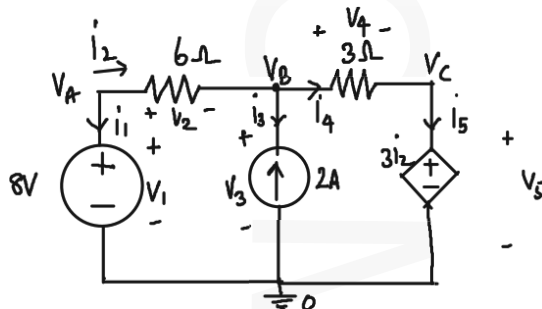

Figure 2: Circuit for STA Analysis, Question 12)
- 12 For the following circuit in Fig. 2, formulate the Sparse Tableau Approach (STA) based equations. The node voltages are  $V_A$ ,  $V_B$  and  $V_C$ , the branch voltages are  $V_1$ ,  $V_2$ ,  $V_3$ ,  $V_4$  and  $V_5$ , and the branch currents are  $i_1$ ,  $i_2$ ,  $i_3$ ,  $i_4$  and  $i_5$ . The STA matrix is in the format: 14